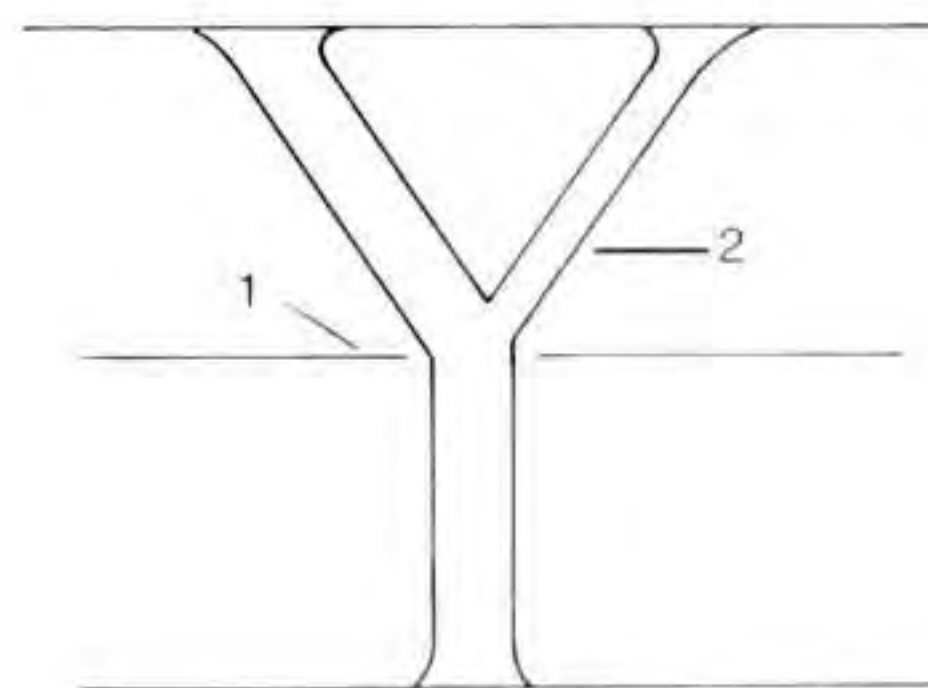

Fig 6.26 Features of the letter *Y*.
See Fig 6.26. The outside lines of the arms meet the stem at the mid-line, forming the same obtuse angle on either side (1). The thick stem and arm should be drawn first, and the thin arm then brought in to the junction (2).